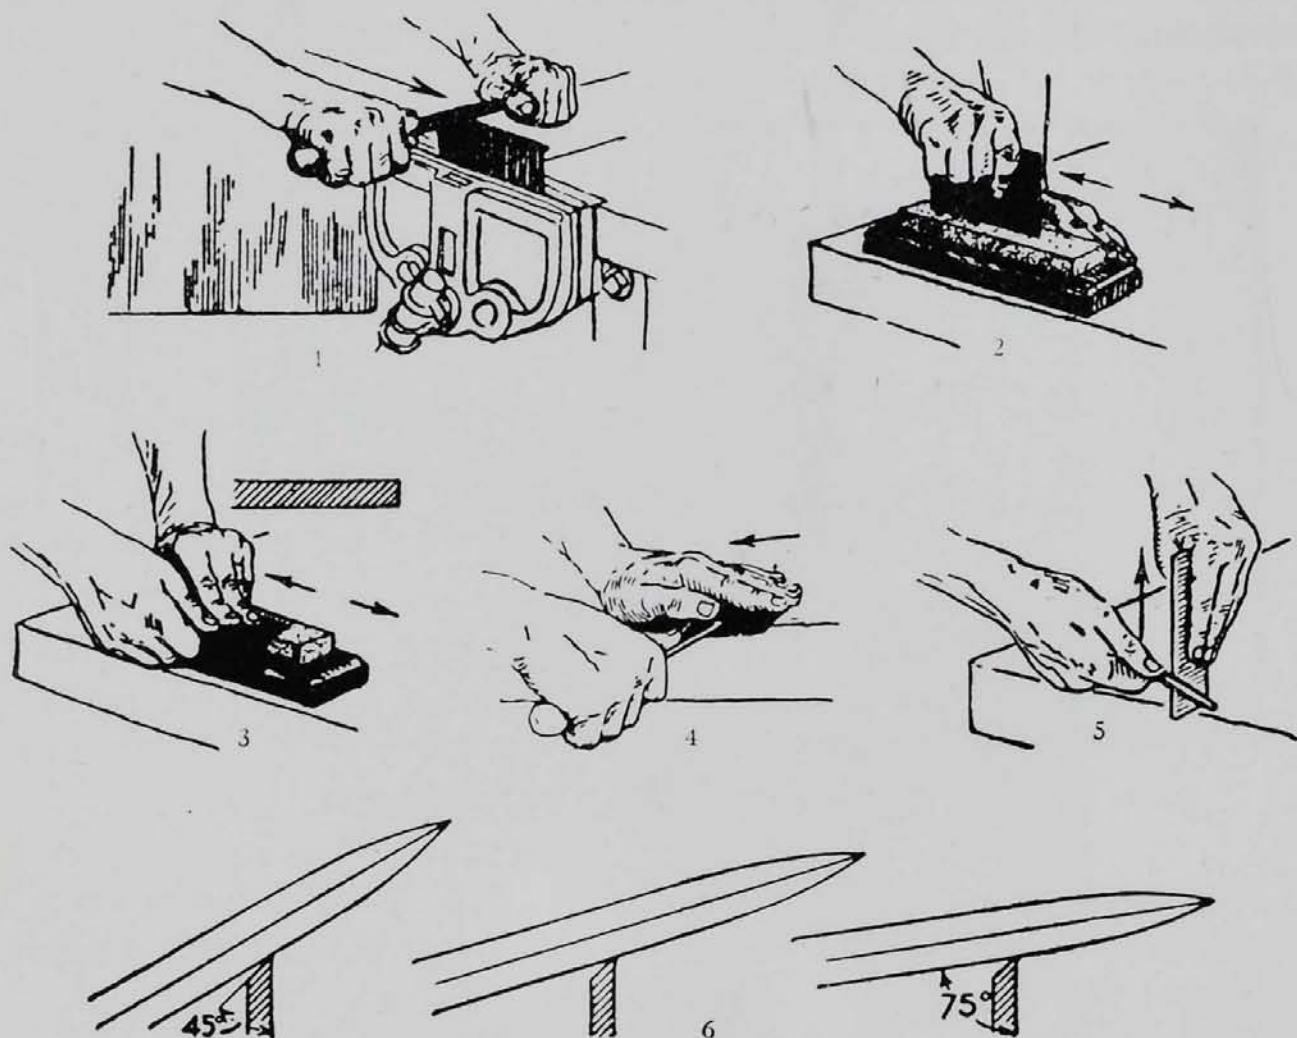

FIG. 2.102. Steps in sharpening a cabinet scraper
Cabinet Scraper. Sharpening a scraper is a skill which should be learned, if articles of furniture for the house are to be made. See Fig. 2.102. The first step is to draw-file the cutting edge at right angles to the side, until the corners are sharp. Some woodworkers prefer to use a 15° angle, and to sharpen only one edge of the scraper (6). After draw-filing, a whet- or oilstone should be used to make a sharp, smooth, cutting edge (1 and 2). Next comes the most difficult step, that of using the burnisher to shape a hooked edge. The scraper should lie flat on the bench, with the sharp edge up (4). Rub the burnisher over the sharp edge, bearing down hard on the corner to roll over the edge. This will roll the edge in toward the center. Next (5), stand the scraper on end and hold the burnisher at an angle as illustrated (6). Draw the burnisher up and down, one or two strokes, to roll the edge and complete the operation. This leaves the edge in the form of a hook. If the edge is sharpened correctly, a small shaving will be obtained when the scraper is used.